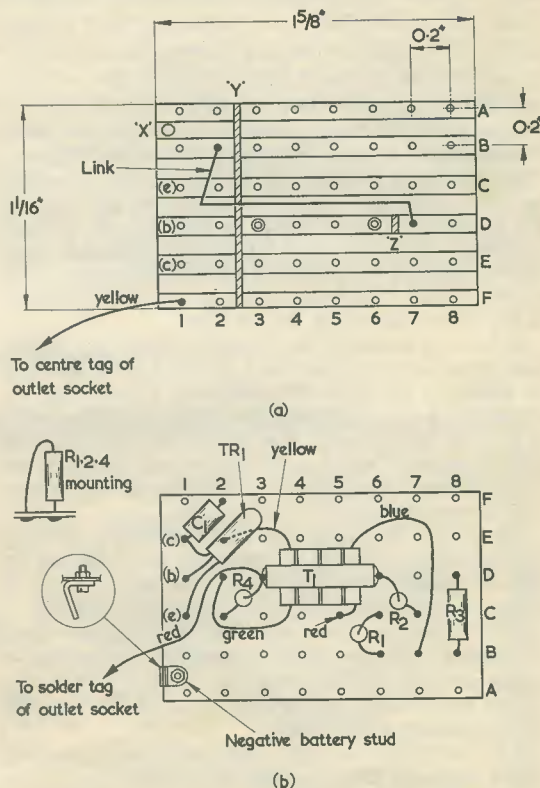

Fig. 2. The board dimensions, together with wiring details
- 1 piece Veroboard, 0.2in pitch, 6 strips by 8 holes (see Fig. 2)
To simplify constructional work each operation will be detailed in turn. Also, the section of Veroboard used is given letter and numerical designations for the holes—see Fig. 2.
(1) Take a piece of Veroboard and cut it with a hacksaw or fretsaw to agree with the plan depicted in Fig. 2 (a) so that six strips of copper exist (A-F) each having eight holes (1-8), and the overall dimensions are as shown.
(2) Using a hacksaw or knife cut a channel as indicated at point "Y", just deep enough to sever the copper strips. Also sever the copper at point "Z".
(3) Slightly enlarge holes D3 and D6, working from the conductor side, and drill a $\frac{1}{16}\text{in}$ hole at point "X". Write (e), (b), (c) in pencil on the strips as shown at the left of Fig. 2.
(4) Take T_1 , fit its clamp and, referring to Fig. 2 (b), pass the two mounting lugs through holes D3 and D6 so that the transformer body stands on the plain side of the board. Bend both lugs inwards on the underside to secure but do not apply solder yet.
(5) Take resistors R_1 , R_2 and R_4 and bend their lead-outs to agree with the inset diagram at Fig. 2 (b).
(6) Insert one end of a 3in length of thin red p.v.c. insulated wire (ends bared) in hole D3 from plain side, together with one lead-out of R_4 (coded Brown-Red-Red). Twist these around the transformer mounting lug on the conductor side and solder the whole to the board.
to holes B6 and C6. Likewise connect and solder R_3 (Red-Red-Red) to holes B8 and D8. R_3 is mounted flat, as shown in Fig. 2 (b).
(11) Insert one end of a 3-in length of thin yellow p.v.c. insulated wire (ends bared) in hole F1 and solder. This wire leaves the board from the copper side; see Fig. 2 (a).
(12) Connect and solder a short length of thin insulated wire between holes B2 and D7 on the copper side, as shown in Fig. 2 (a).
(13) Fit and solder one end of C_1 to hole F2.
(14) Take the transistor and carefully cut each lead-out back to $\frac{1}{2}$ in. Sleeve the centre lead-out and insert the three wires as shown at Fig. 2 (b), making sure that the lead-out adjacent to the red spot on the transistor shell connects to hole E1. Hold each transistor wire with tweezers to shunt off iron heat when soldering to the board. Solder the three wires at the points indicated, inserting also the free end of C_1 before soldering the (c) wire.
(15) Take a solder tag, bend it to an "L" shape, then wrap it around the end of the board, fixing it by means of the 8BA nut and bolt. Check that the screw head short circuits the strips at A1 and B1. If it does not, remove and fit a washer. (The tag should project on the plain side of the board at an angle of approximately 60° . The base of the battery will engage this tag.)
Other uses of square waves will suggest themselves, and those just given are merely a few ideas. To help those new to them, Fig. 2 shows several
Fig. 2. Square wave testing. If the square wave of (a) is fed to an amplifier having poor low frequency response, the output resembles the waveform of (b). Poor high frequency response gives the output shown in (c). The waveform of (d) illustrates a ringing condition